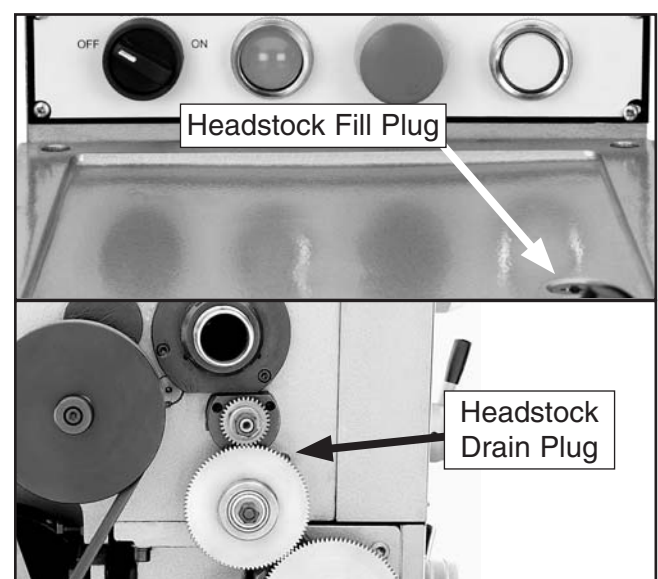

Figure 76. Headstock fill and drain plugs.
Each reservoir has a fill and drain plug, as shown in **Figures 76–78**. The reservoirs use ISO 68 or an equivalent gear oil.
3. Remove the fill plug from the headstock oil reservoir (**Figure 76**).
4. Hold the drain pan under the headstock drain plug, then remove the drain plug (**Figure 76**) and allow the oil to completely drain into the pan.